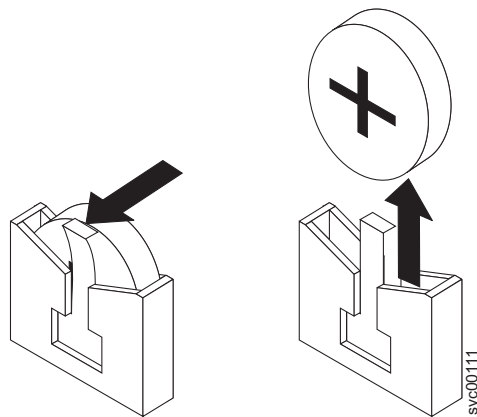

Figure 140. SAN Volume Controller 2145-8F2 or the SAN Volume Controller 2145-8F4 CMOS battery holder
- a. Use one finger to pull the retainer tab, which is shown in Figure 140, that secures the battery to its housing.